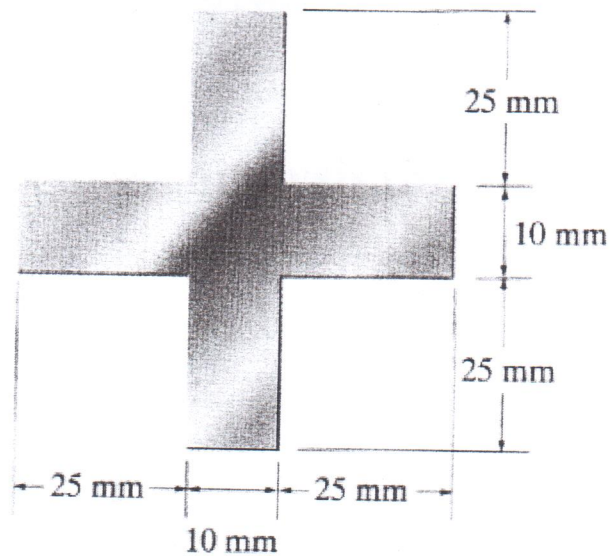

Figure 4.
- (7) An A-36 steel column ($E = 200 \text{ GPa}$) has a length of 4 m and is pinned at both ends. If the cross-sectional area has the dimensions shown in **Figure 4**, determine the critical load.